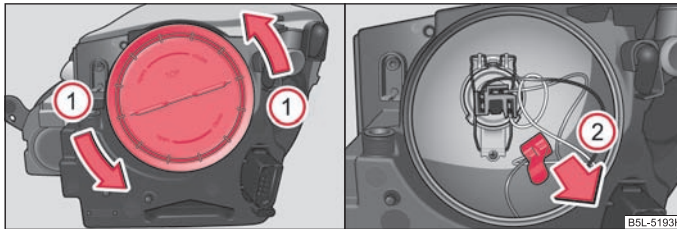

Fig. 194 Remove cap/removing the fixture for the parking light (halogen headlight)
- Turn the protective cap in direction of arrow ① **OPEN** and remove it ⇒ fig. 194.
- Pull out the fixture in direction of arrow ② ⇒ fig. 194.
- Turn the protective cap in direction of arrow **OPEN** ⇒ fig. 194 and remove it.